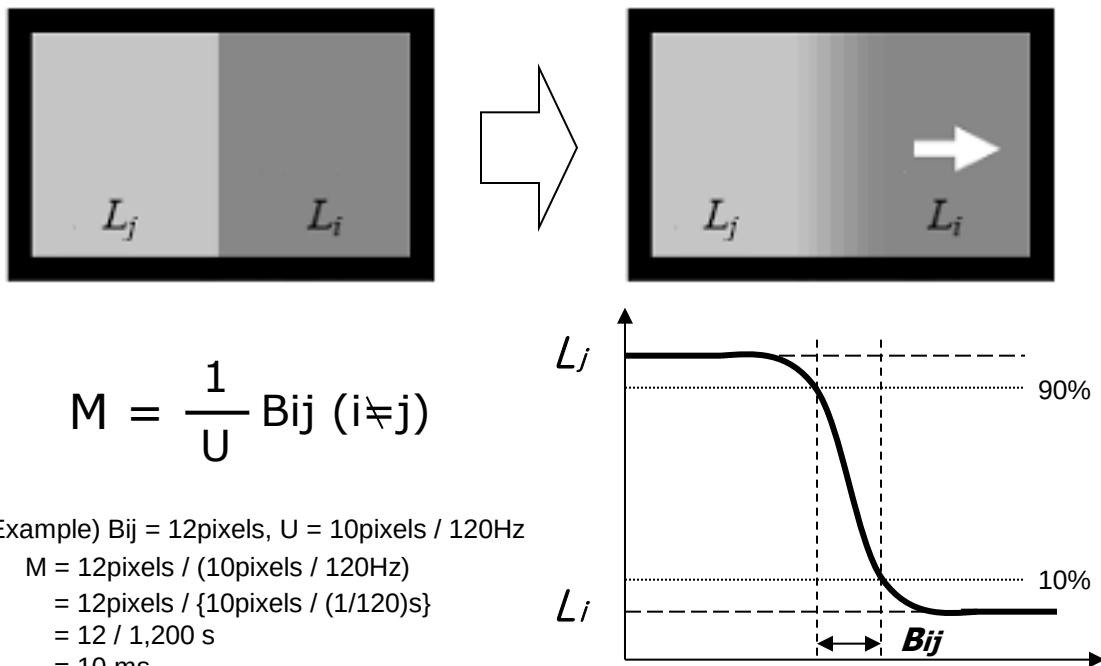

FIG. 4 MPRT
5. MPRT is defined as the 10% to 90% blur-edge width Bij(pixels) and scroll speed U(pixels/frame) at the moving picture. For more information, see FIG 4.